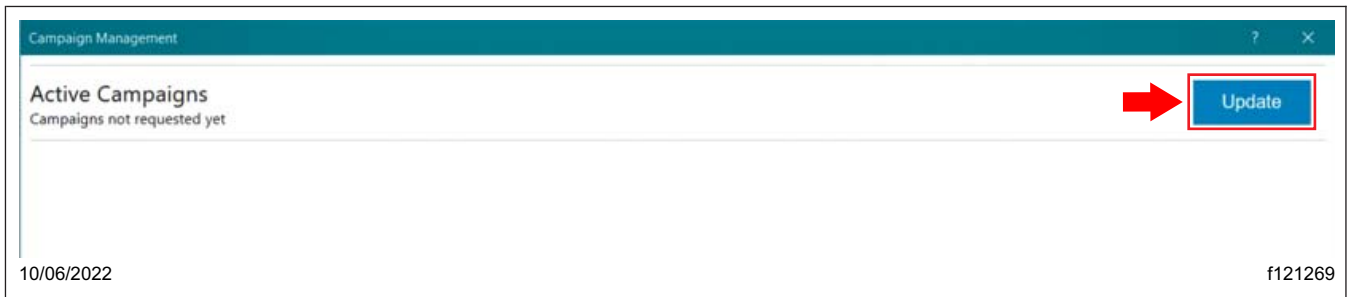

Fig. 9, Selecting Update
7.2 Select 'Update.' The list of active campaigns corresponding to the VIN, if any, would be displayed. See Fig. 9.